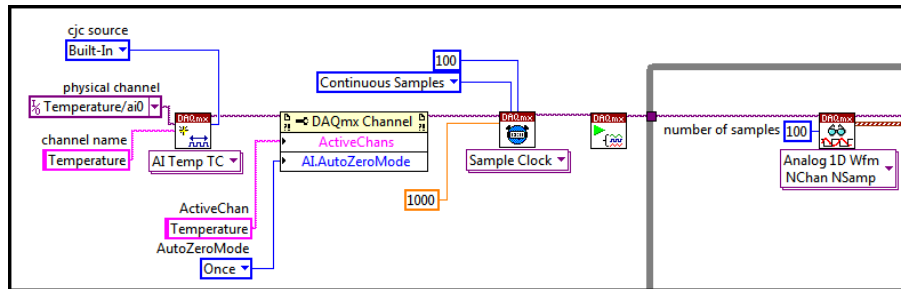

Figure 6. Complete the configuration of the DAQmx Timing.vi as shown.
- c. Left-click to place the DAQmx Timing.vi between the *DAQmx Create Channel VI* and the *Start Task VI* as shown in Figure 6.